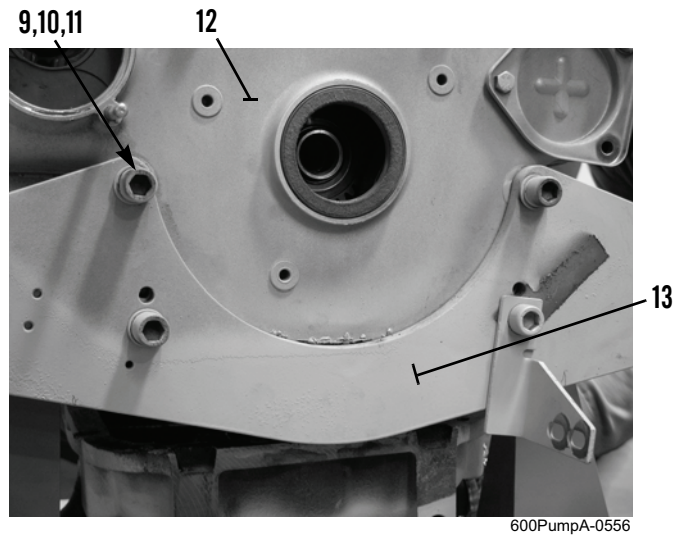

Figure 4. Engine Crossbeam.
3. Install four washers (Figure 4, Item 11), new lockwashers (Figure 4, Item 10), and bolts (Figure 4, Item 9) to engine crossbeam (Figure 4, Item 13) and engine front cover (Figure 4, Item 12).